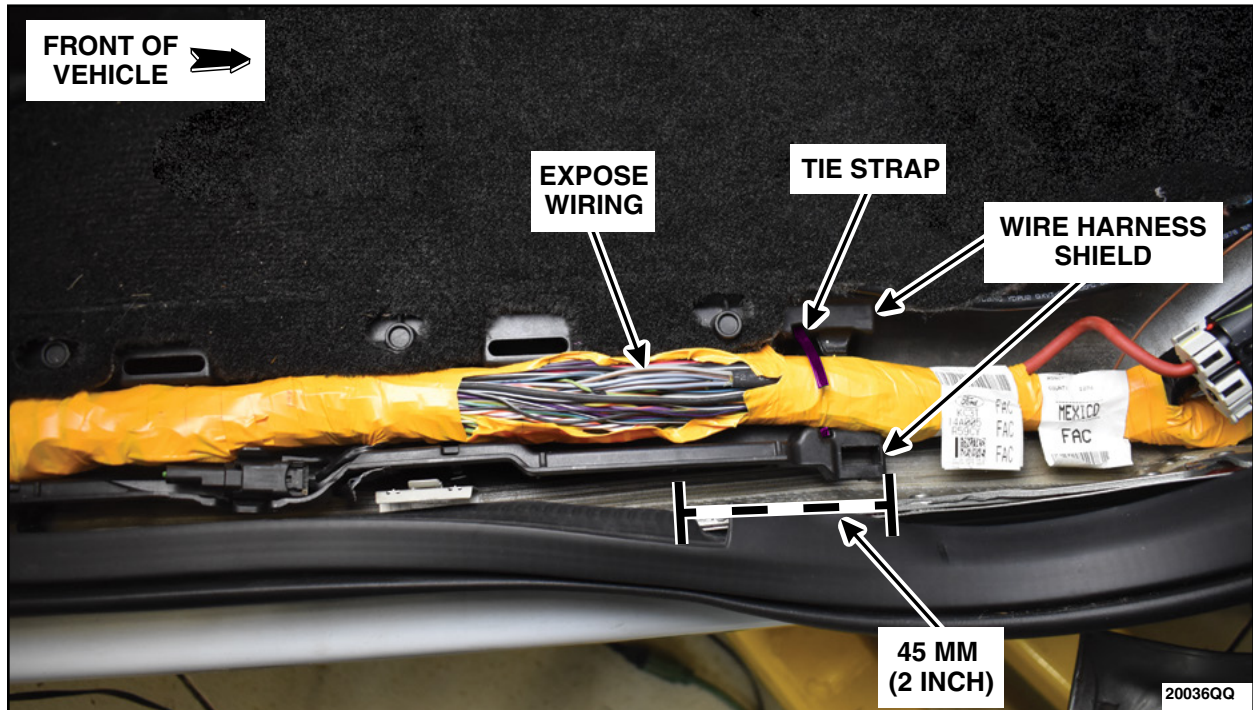

FIGURE 48
65. On the floor of the front passenger side door, cut the wire harness tie strap. Using a Harness Ripper tool or equivalent, carefully open up the harness 75 mm (3 inch) from the front of the wire harness shield to expose the wiring. See Figure 48.